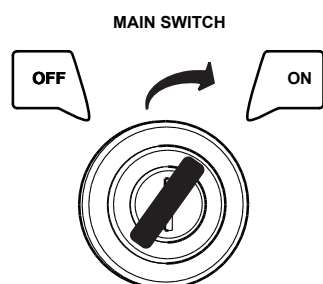

Figure 27. Main Switch (ON Position)
1. Make sure the main switch (ignition switch) key is turned to the **ON** position (Figure 27).